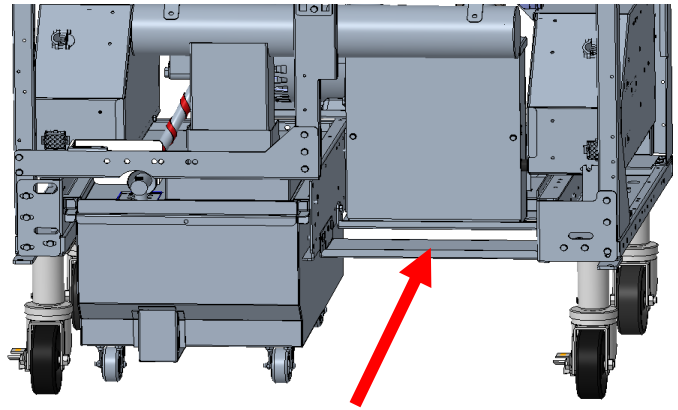

Fig 10
14. Remove JIB cradle and install factory shipping brace if available (Figure 10).
19. Once fryer has powered up, wait one (1) additional minute with the controller OFF and press the **HOME** button on the left controller.